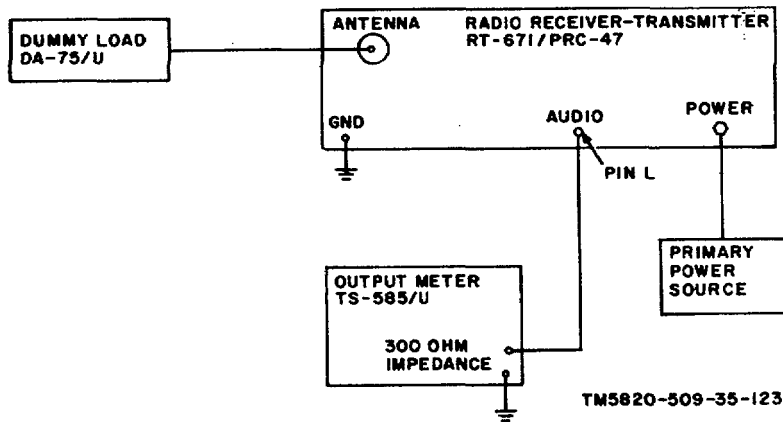

Figure 3-108. Transmitter Sidetone Adjustment, Test Equipment Setup.
(1) Remove the RT-671/PRC-47 from its case using the procedures of paragraph 3-11.
(2) Connect the primary power source to the POWER connector on the front panel of RT-671 /PRC-47.
(3) Connect the output meter and dummy load to the receiver-transmitter as shown in figure 3-108.
(4) Set the output meter IMPEDANCE switch to 300 ohms, and adjust the meter multiplier for 500 milliwatts full scale.
(5) On the front panel of RT-671/PRC-47, set the controls as follows: